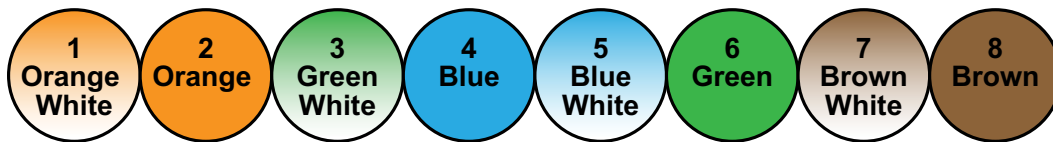
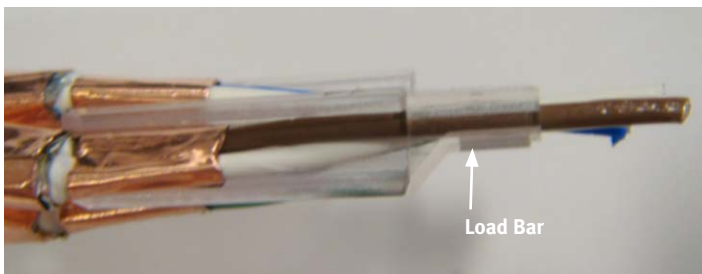

Figure 19: Positioning pairs in load bar
Figure 20: Side view of first end load bar
12. Carefully slide the pairs into the load bar following the diagram in Figure 19. Be sure to maintain the nature twist of each pair as you insert the individual connectors into their positions (Figures 20 and 21).